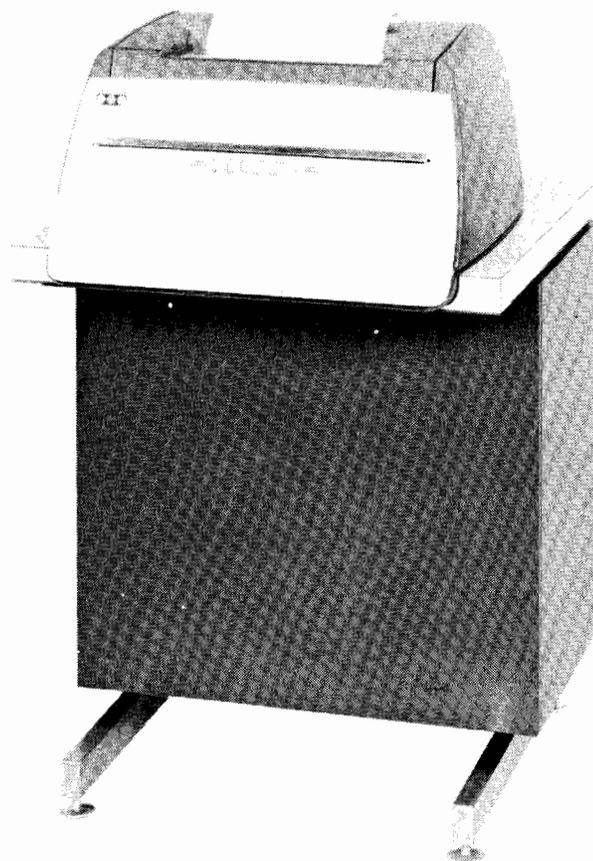

Figure 1 - 37 RO Teletypewriter Set
1.01 This section provides removal and replacement of component information for the 37 Receive-Only (RO) Teletypewriter Set (Figure 1).
1.03 References in the procedures to left or right, up or down, top or bottom, etc, refer to the unit as viewed facing the control panel (Figure 1).